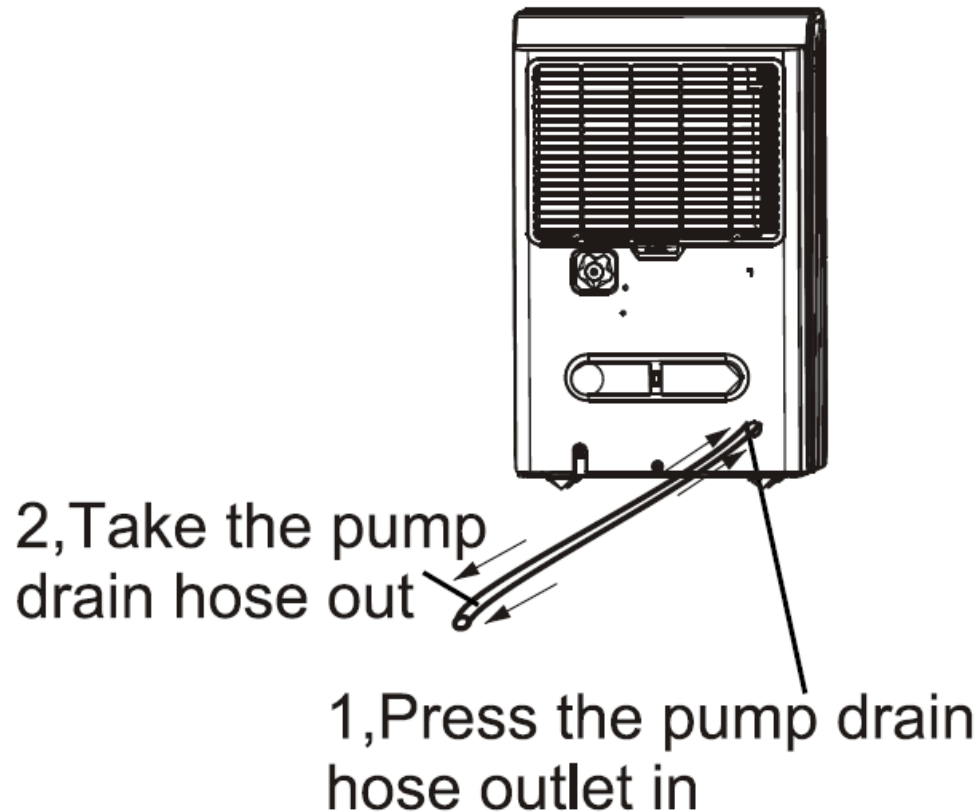

Fig.13
- Press the pump drain hose outlet in and take the pump drain hose out from it (See Fig.13). Make sure not to let the water in the pump hose drip to the floor.